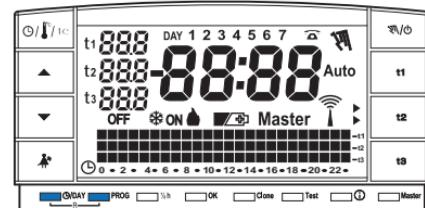

fig. 27
- To clear unwanted data, press keys **G/DAY** and **PROG** (approximately 2 seconds). All sections that are on will appear on the display (general autotest) (fig. 27/28).